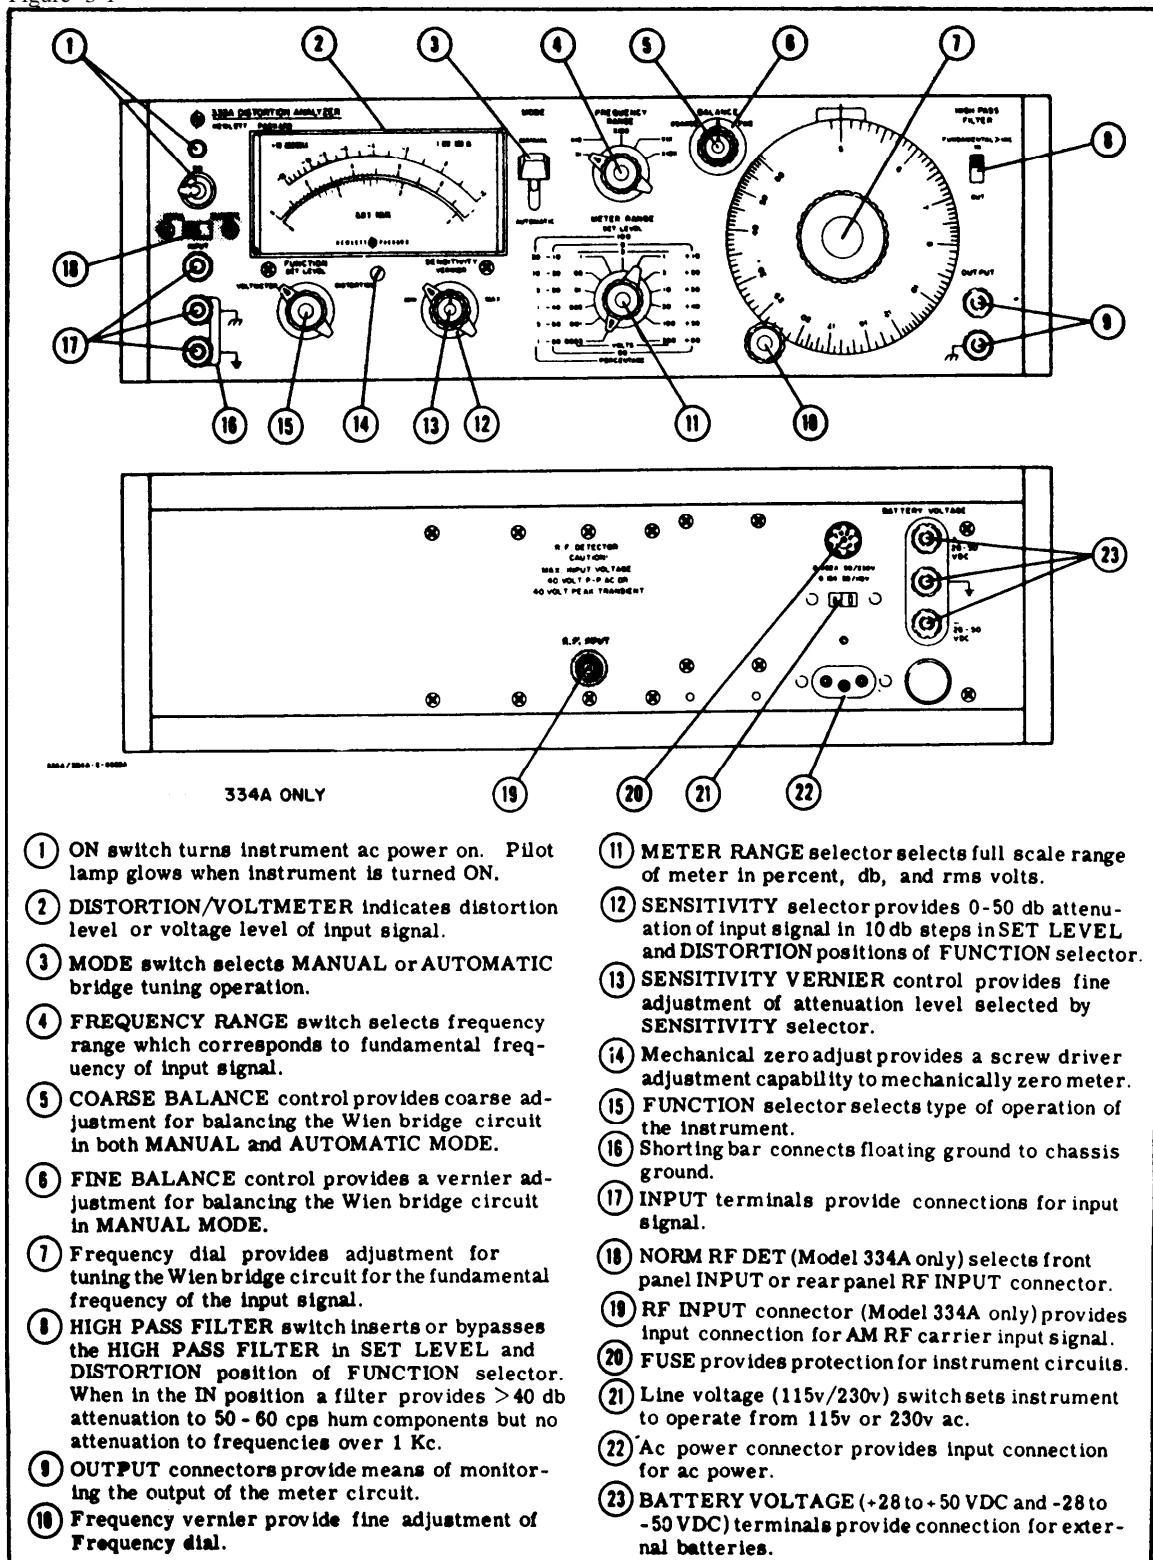

Figure 3-1. Front and Rear Panel Description
3-5. Figure 3-1 illustrates and describes the function of all front and rear panel controls, connectors, and indicators. The description of each component is keyed to a drawing included within the figure.
3-10. Signal source can be connected to the 333A and 334A through twisted pair leads or a shielded cable with banana plug connectors. Keep all test leads as short as possible to avoid extraneous pickup from stray ac fields. When measuring low-level signals, battery operation is recommended to avoid ground loops. Another method for avoiding ground loops is by connecting only one instrument in a test setup directly to power line ground through a NEMA (three-prong) connector. Connect all other instruments to the power source through a three-prong to two-prong adapter and leave the pigtail disconnected. Both the 333A and 334A have a dc isolation of ±400 vdc from the external chassis with the shorting bar, (item 16 , Figure 3-1), disconnected.